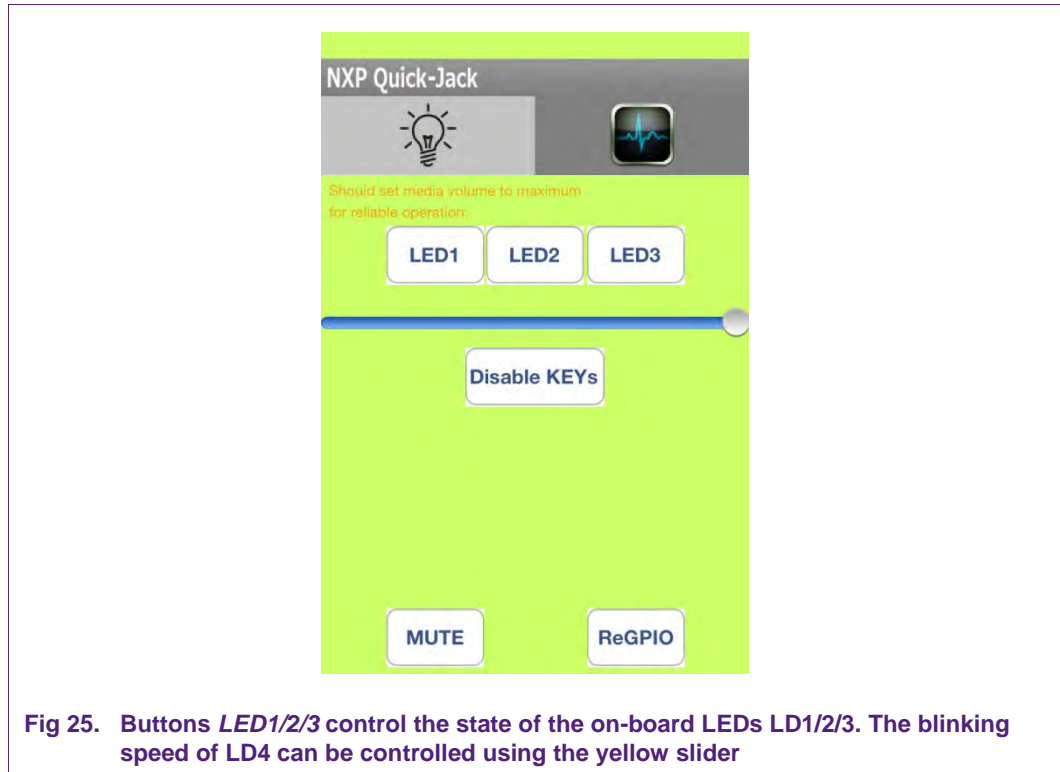

Fig 25. Buttons *LED1/2/3* control the state of the on-board LEDs LD1/2/3. The blinking speed of LD4 can be controlled using the yellow slider
- By clicking the *LED1/LED2/LED3* buttons, on-board LEDs LD1 to LD3 can be toggled on and off (Fig 25).